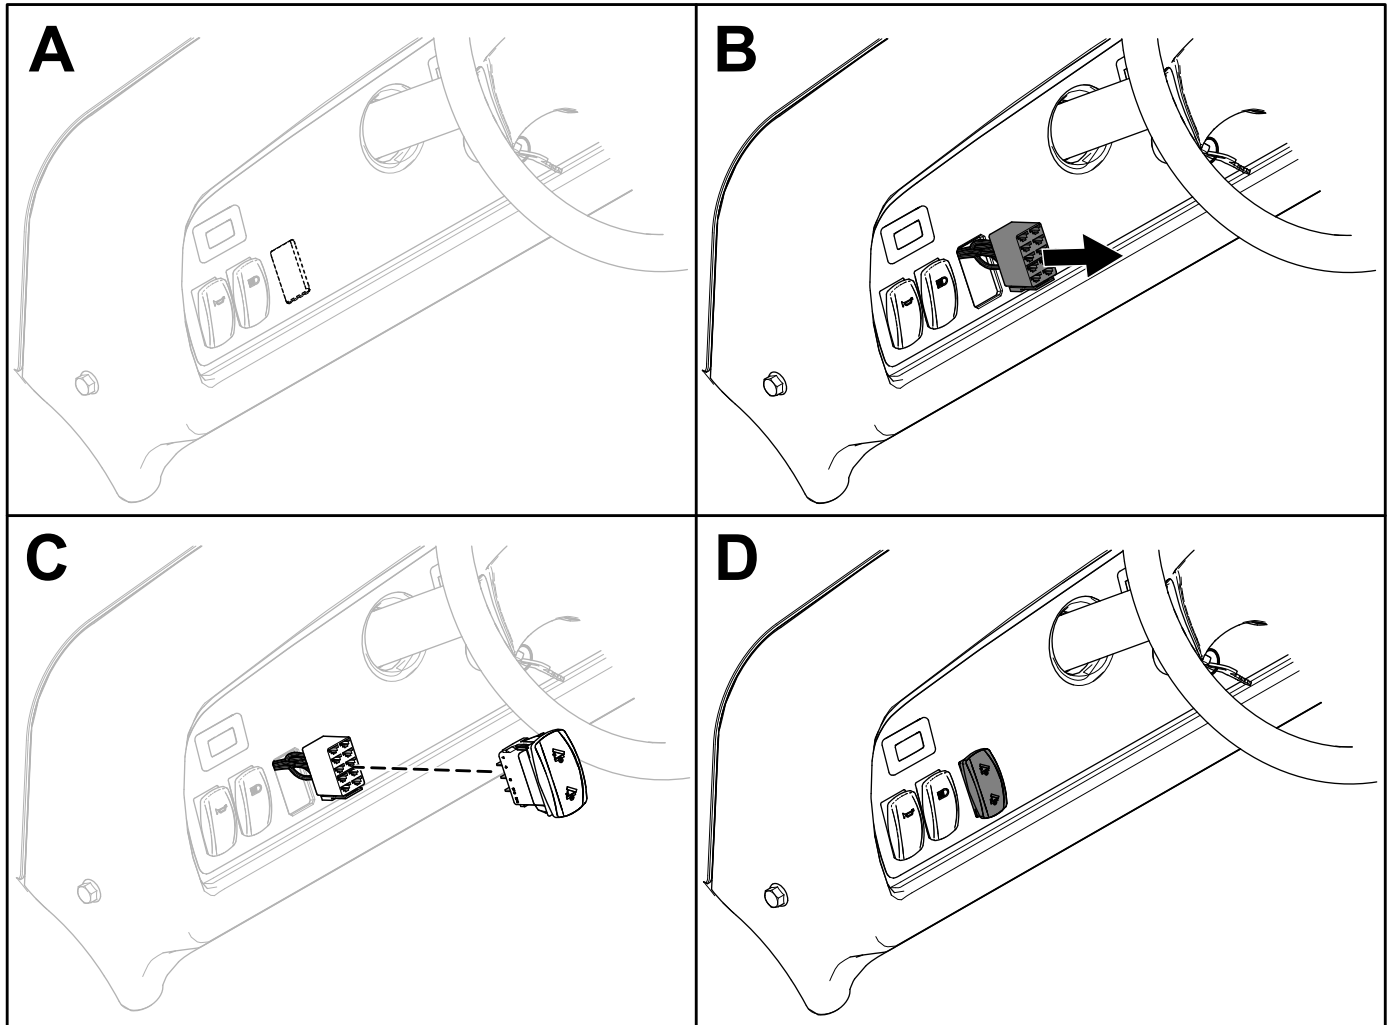

Figure 8
1. Cut out the opening in the dashboard decal for the switch (box A of Figure 8).
2. Install the switch connector through the opening in the dashboard (box B of Figure 8).
3. Install the switch to the switch connector (box C of Figure 8).
4. Ensure that the switch is oriented properly (box D of Figure 8).